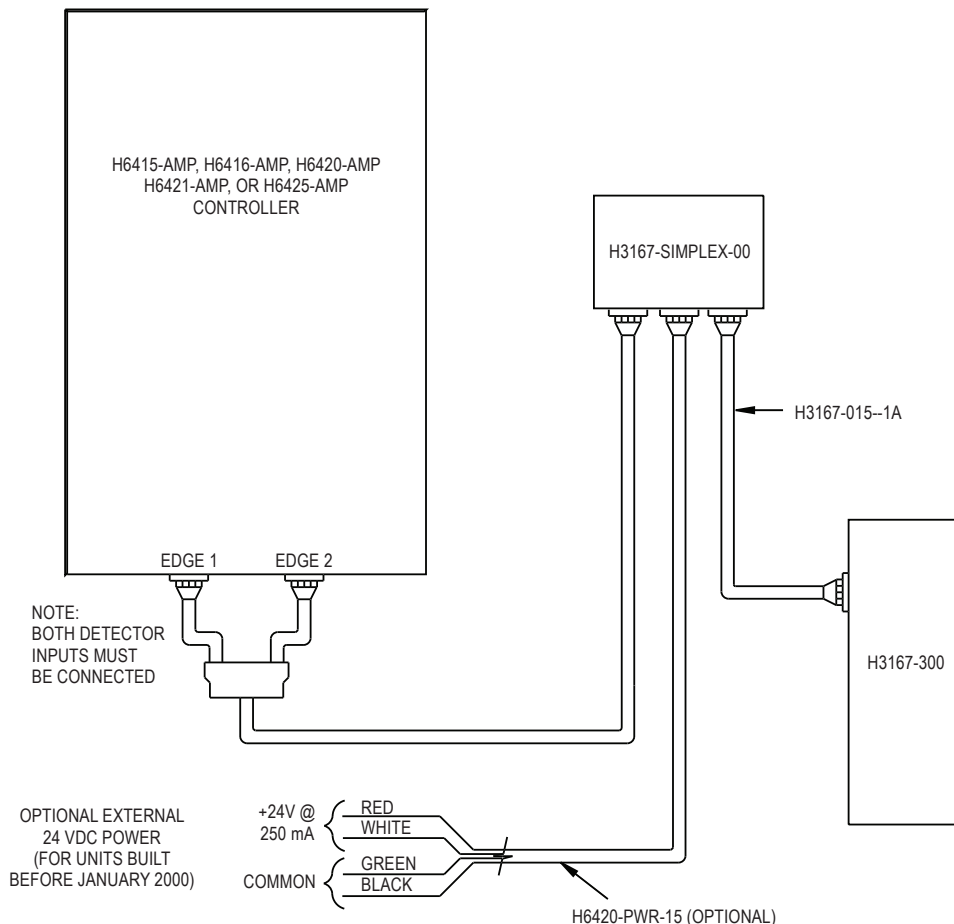

Figure 2. H3167-SimPlex Wiring
- Step 1.** Make the following connections to the H3167-SimPlex-00 (See Figure 2):
4. If an optional 24 Vdc power supply is used (required for use with SimPlex™ controllers built before January 2000), connect it to the H3167-SimPlex-00 using cable H6420-PWR-15 (see Figure 2 for wiring). Move jumper J9 to position 2&3. (J9 should be in positions 1&2 if the SimPlex controller is used to power the H3167-SimPlex-00.)